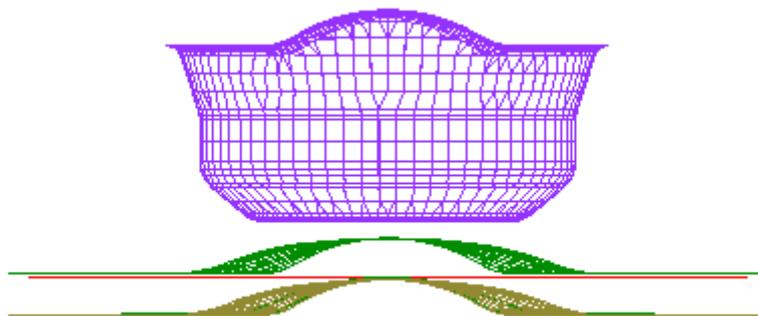

Figure 7.40 The relative position of tools and blank after positioning
- Click  icon from the **Icon bar** to display the relative position of tools and blank, as shown in Figure 7.40.